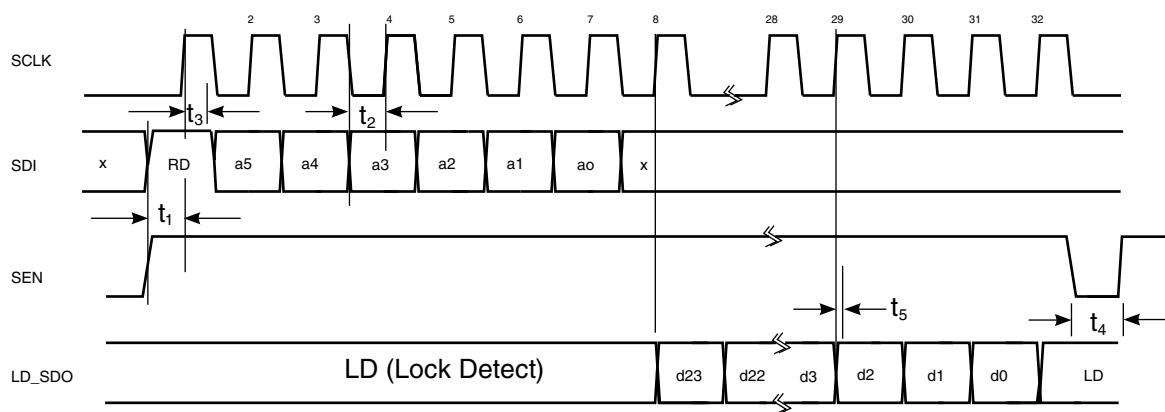

Figure 37. HMC Mode Serial Port Timing Diagram - READ
A typical HMC Mode READ cycle is shown in Figure 37.
- The Master (host) asserts both SEN (Serial Port Enable) and SDI to indicate a READ cycle, followed by a rising edge SCLK. Note: The Lock Detect (LD) function is usually multiplexed onto the LD_SDO pin. It is suggested that LD only be considered valid when SEN is low. In fact LD will not toggle until the first active data bit toggles on LD_SDO, and will be restored immediately after the trailing edge of the LSB of serial data out as shown in Figure 37.
- The slave (PLL) reads SDI on the 1st rising edge of SCLK after SEN. SDI high initiates the READ cycle (RD)